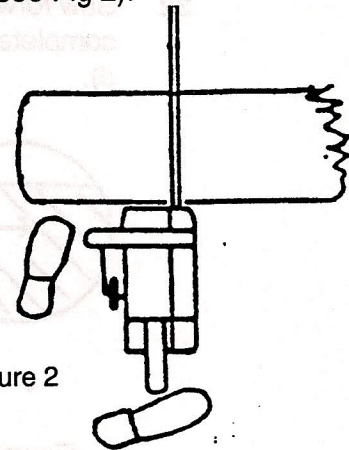

Figure 2
Cut from the topside downward using full throttle (Top cut, see Fig 2).
- 4 Attach the aid tool firmly to the tree so that the handle is at 90° to the stem and between waist and chest height (Fig 2).
- 6 Roll the tree by pushing forward on the handle (Fig 2).
- 7 Reposition the aid tool to stay out of the danger area (Fig 2).